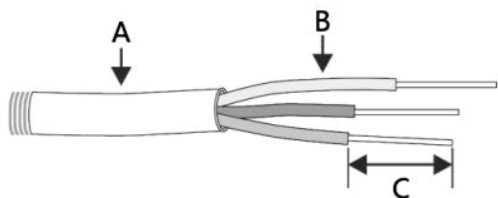

Figure 17
- (7) Wire stripping requirements (as shown in Figure 17)
The communication cable is in type B, see Figure 17. Leave the power cables and communication cables hanging on outside. Leave the device aside.